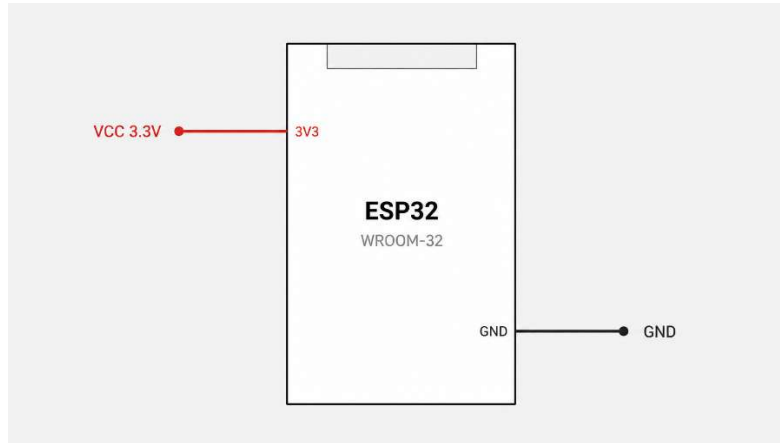

Figure 5. Circuit power and ground connection.
1. Connect the ESP32 power and ground, by connecting the 3V3 pin on the ESP32 to the 3.3 V power rail. Then connect one of the ESP32 GND pins to the ground rail (As shown in Figure 5)